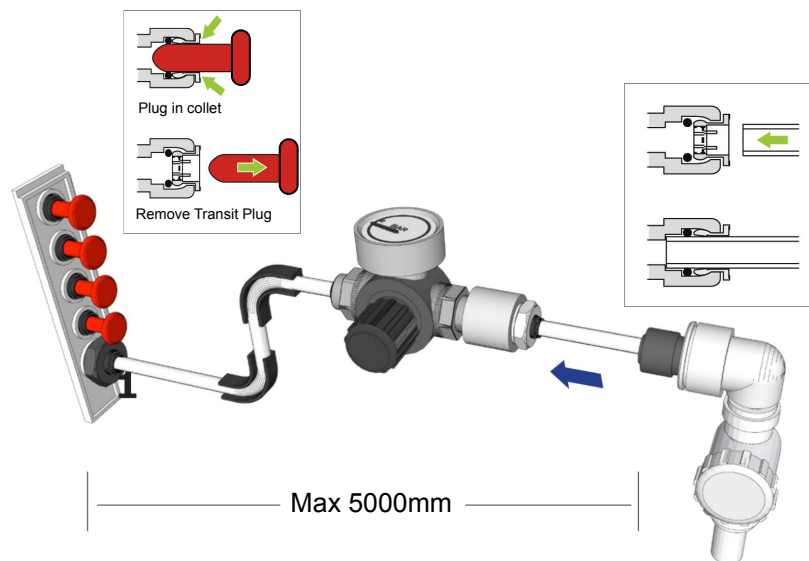

Fig 1
3. CONNECT tube from LA512 Pressure regulator into 8mm flow Reducer, (Potable Feedwater Supply) (Fig 1)